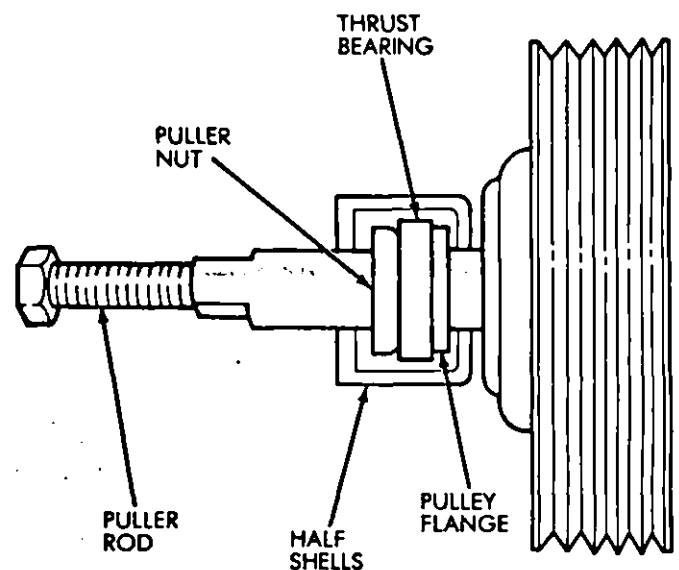
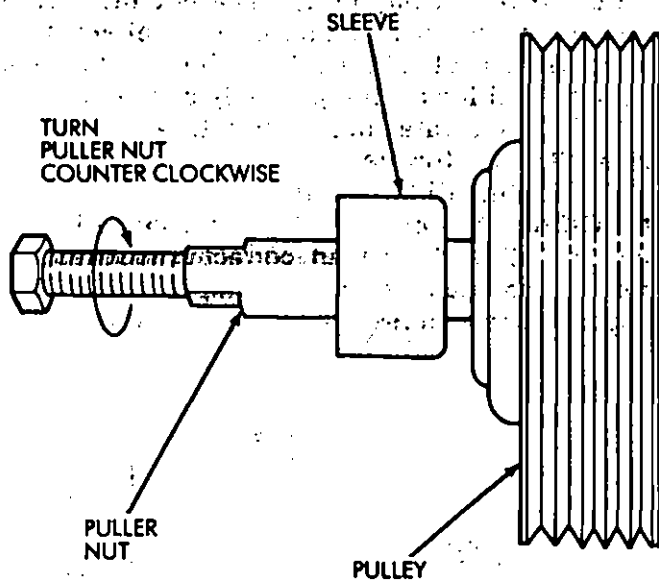

Fig. 9—Water Pump Puller Installation
Fig. 10—Water Pump Pulley Removal
- (1) Thread TOOL 6160 water pump pulley puller/installer bolt into water pump shaft with the thrust bearing between the pulley and puller nut (Fig. 9). Thread the puller bolt in until it bottoms out. Then back off the bolt one turn.
- (2) Install the half shells over the flange on the pulley and the puller nut and thrust bearing.
- (3) Install puller sleeve over half shells (Fig. 10).
- (4) Hold puller bolt in place and turn puller nut counterclockwise to remove water pump pulley.